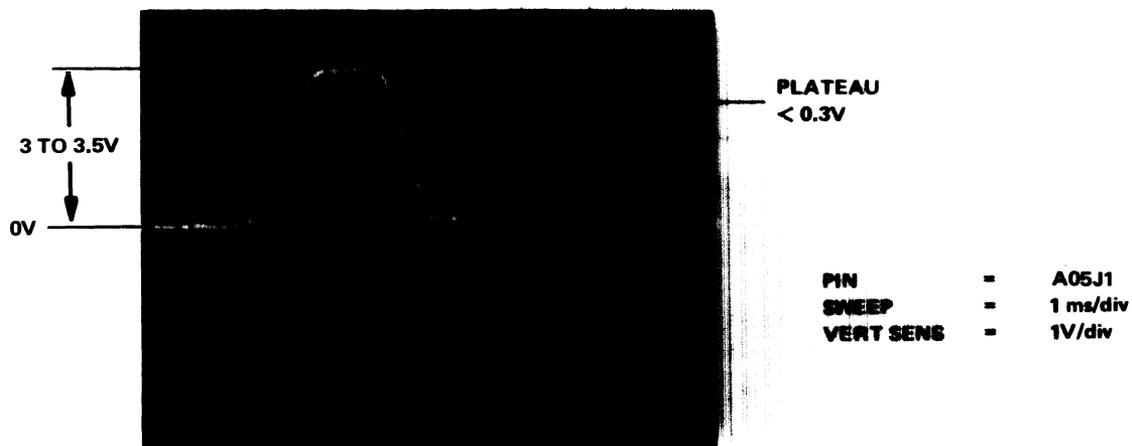

Figure 5-21 Outer Limit Waveform
- c. Set the scope vertical sensitivity to 1 V/div and observe A05J1 (LIMIT) for a scope display as illustrated in Figure 5-21. The waveform peak amplitude must be 3 to 3.5 V with a minimum level of 0 V. In addition, the voltage plateau immediately following the trailing edge must not exceed 0.3 V. If not, perform the static limit adjustment procedure (Paragraph 5.4.2.2).